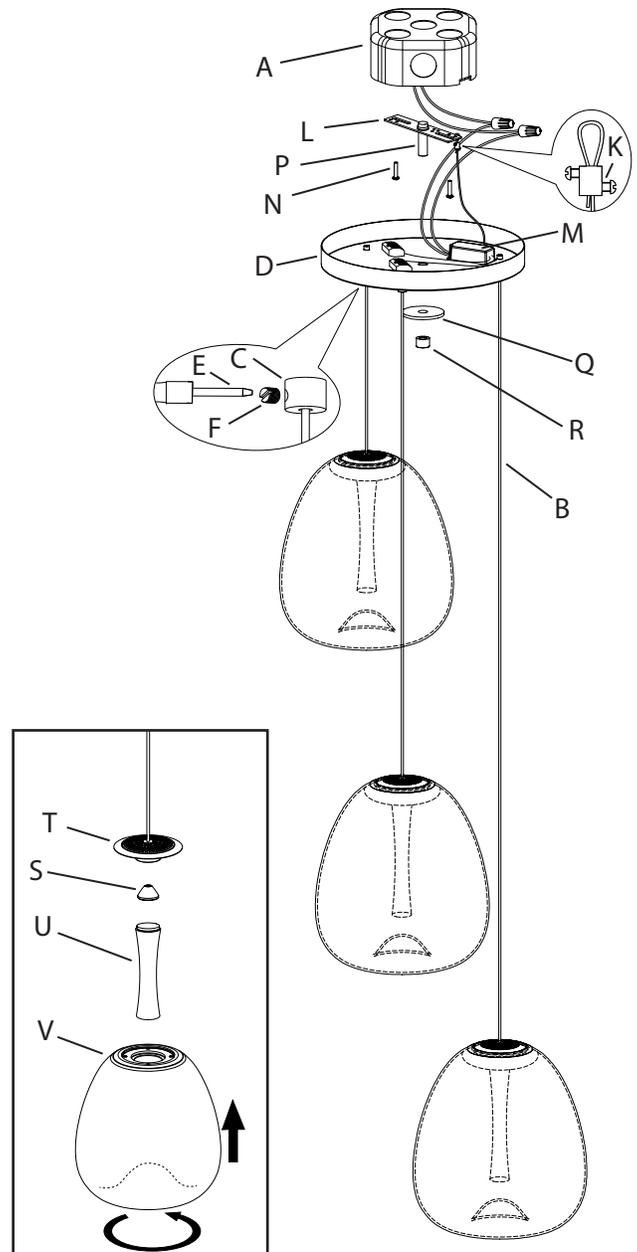
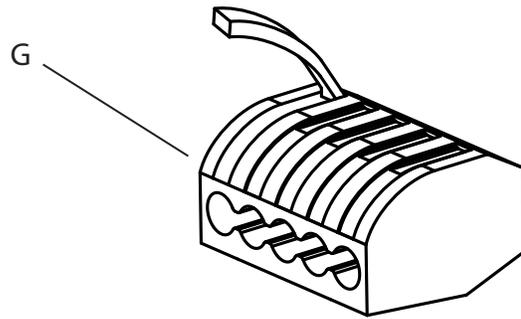
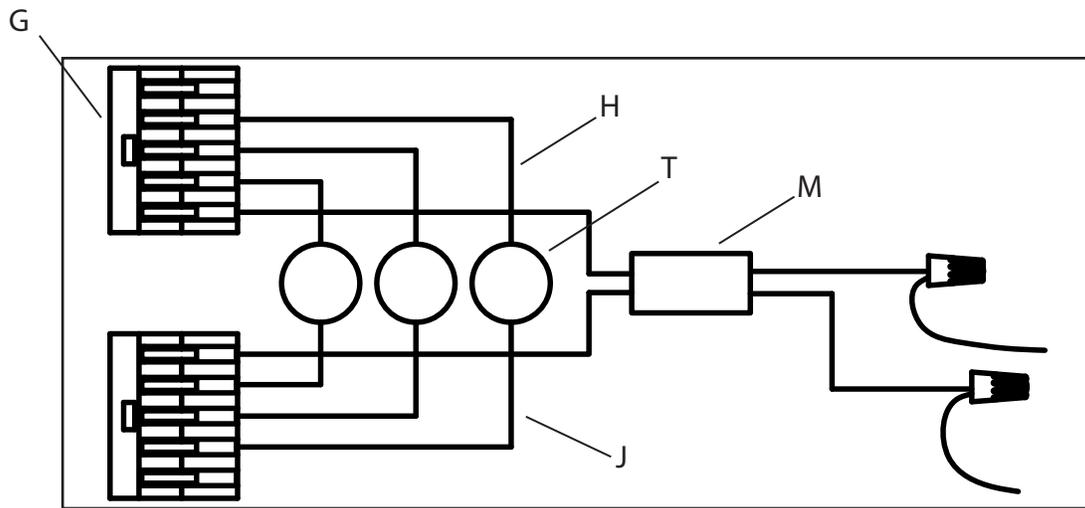

Fig. 3
Fig. 1
Fig. 2
1. Shut off power to the outlet box. (A).
2. Feed the power cords (B) through the bushings (C) on canopy (D).
3. Determine the height at which the fixture is to be hung. Use the screwdriver (E) to loosen the set screw (F). Adjust the cord (B) to the desired length. Tighten the set screws to set.
4. Connect the fixture wires to the lever nuts (G) by pulling up on the lever for an empty slot (Fig. 1), inserting the wire, and pushing the lever back down to lock. The red inner conductor (H) and black outer conductor (J) on each cord (B) must be connected to separate lever nuts, as shown (Fig. 2). **Note:** this step may not be applicable.
5. Loosen the screws on the safety cable coupling (K) and undo the loop. Pass the safety cable through a hole on the cross bar (L) and insert the end back through the coupling to form a loop. Tighten the coupling screws to secure the safety cable.
- a. Connect the LED driver's (M) live wire (black) to the outlet box (A) live wire.
7. Reserve extra cords and LED driver (M) in canopy (D).
8. Attach cross bar (L) to the outlet box (A), secure with outlet the provided box screws (N).
9. Attach canopy (D) to nipple (P), using canopy washer (Q) and canopy nut (R).
10. Install lens (S) into the pendant (T) and secure by screwing diffuser (U) into the pendant (Fig 3).
11. Carefully hold the pendant (T) while screwing the glass (V) onto the pendant (Fig. 3).
12. Restore power to the outlet box (A).